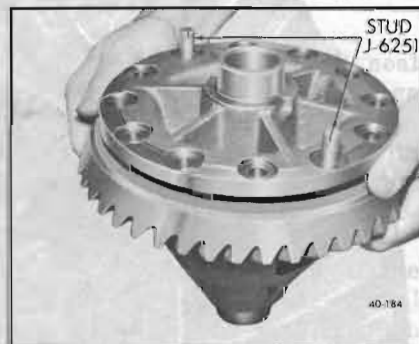

Figure 40-173—Installing Ring Gear on Differential Case
6. After making sure that mating surfaces of case and ring gear are clean and free of burrs, bolt ring gear to case using three Studs J-6251 to align parts. See Figure 40-173.